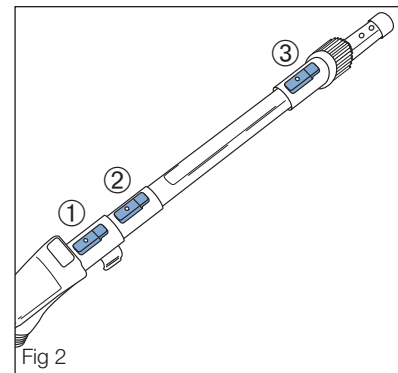

Fig 2
- Reposition end of wand in opening (Fig. 2).
- Extend or shorten the telescopic wand by pressing release button ② (Fig. 2).
- Use crevice tool or turbo nozzle with or without wand. Press button ① to pull wand off handle (Fig. 2).